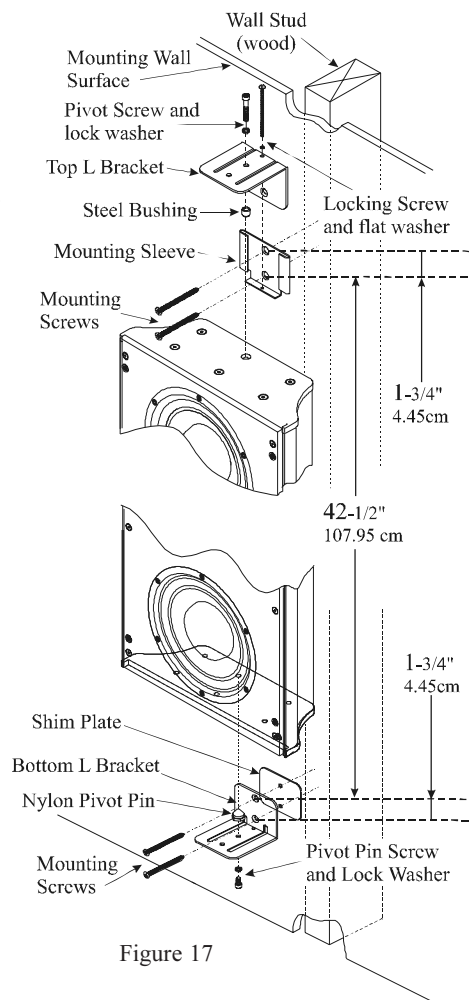

Figure 17
8. Referring to figure 17, measure down from the just mounted L Bracket and install the Bottom L Bracket together with the Shim Plate, using the supplied Mounting Screws (Phillips Head 1/4 x 1-3/4 inch).